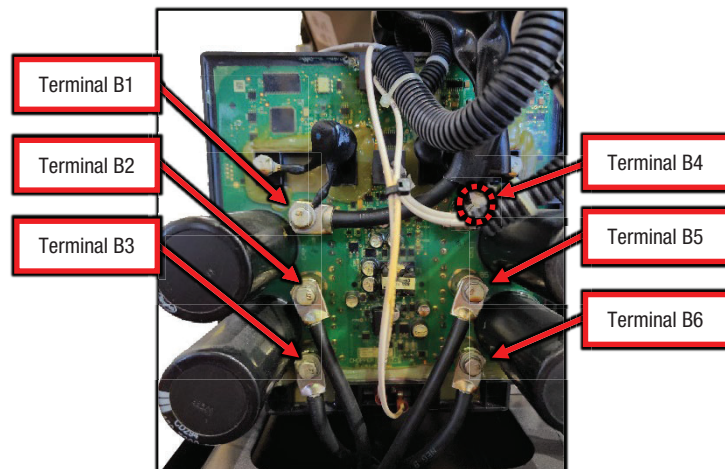

Figure F.3
A.3. Perform the static measurements in Test Table 1, refer to Figure F.3 for test point locations. NOTE: MEASUREMENTS ARE MADE ON THE RIGHT CHOPPER BOARD TERMINALS WITH THE LEADS REMOVED.